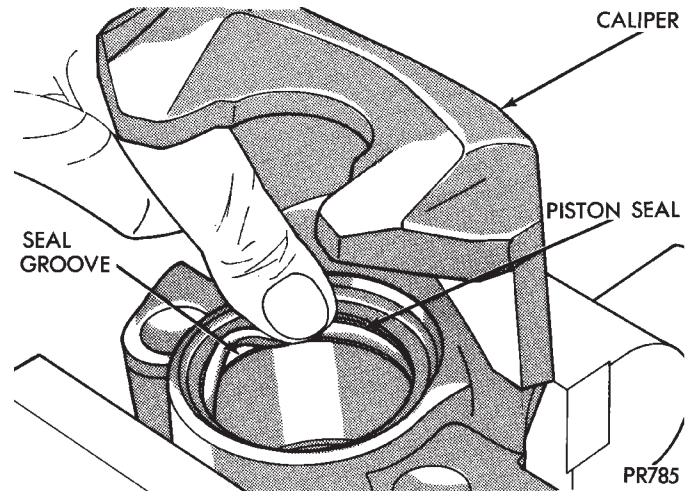

Fig. 163 Installing New Piston Seal In Caliper
(1) Clamp caliper in a vise (with protective caps installed on jaws of vise).
(2) Dip new piston seal in clean brake fluid and install in the groove of the caliper bore. Seal should be positioned at one area in groove and gently worked around the groove (Fig. 163), using only your fingers until properly seated. **NEVER USE AN OLD PISTON SEAL.** Be sure that fingers are clean and seal is not twisted or rolled (Fig. 163).